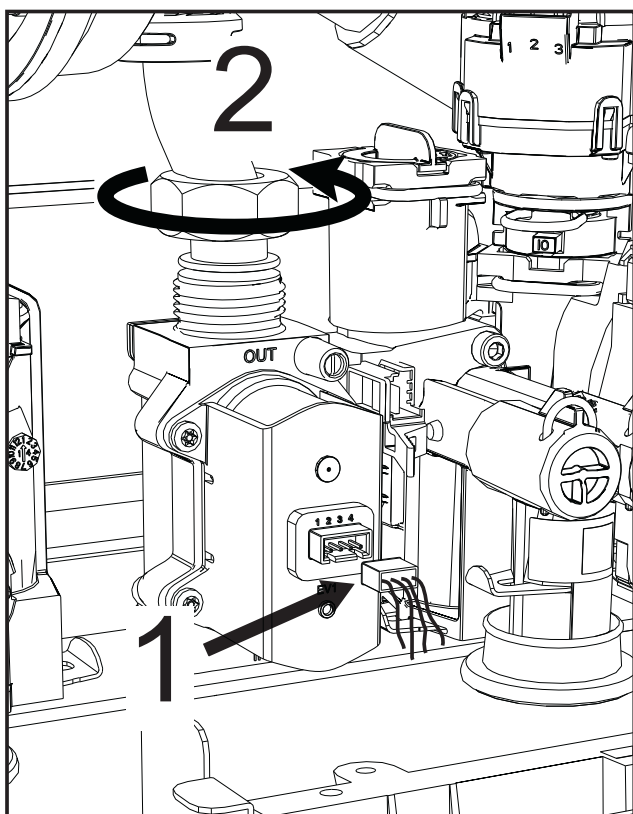

fig. 46
- Disconnect the electrical connectors "1" (fig. 46).
- Disconnect the gas supply pipe "2" (fig. 46)